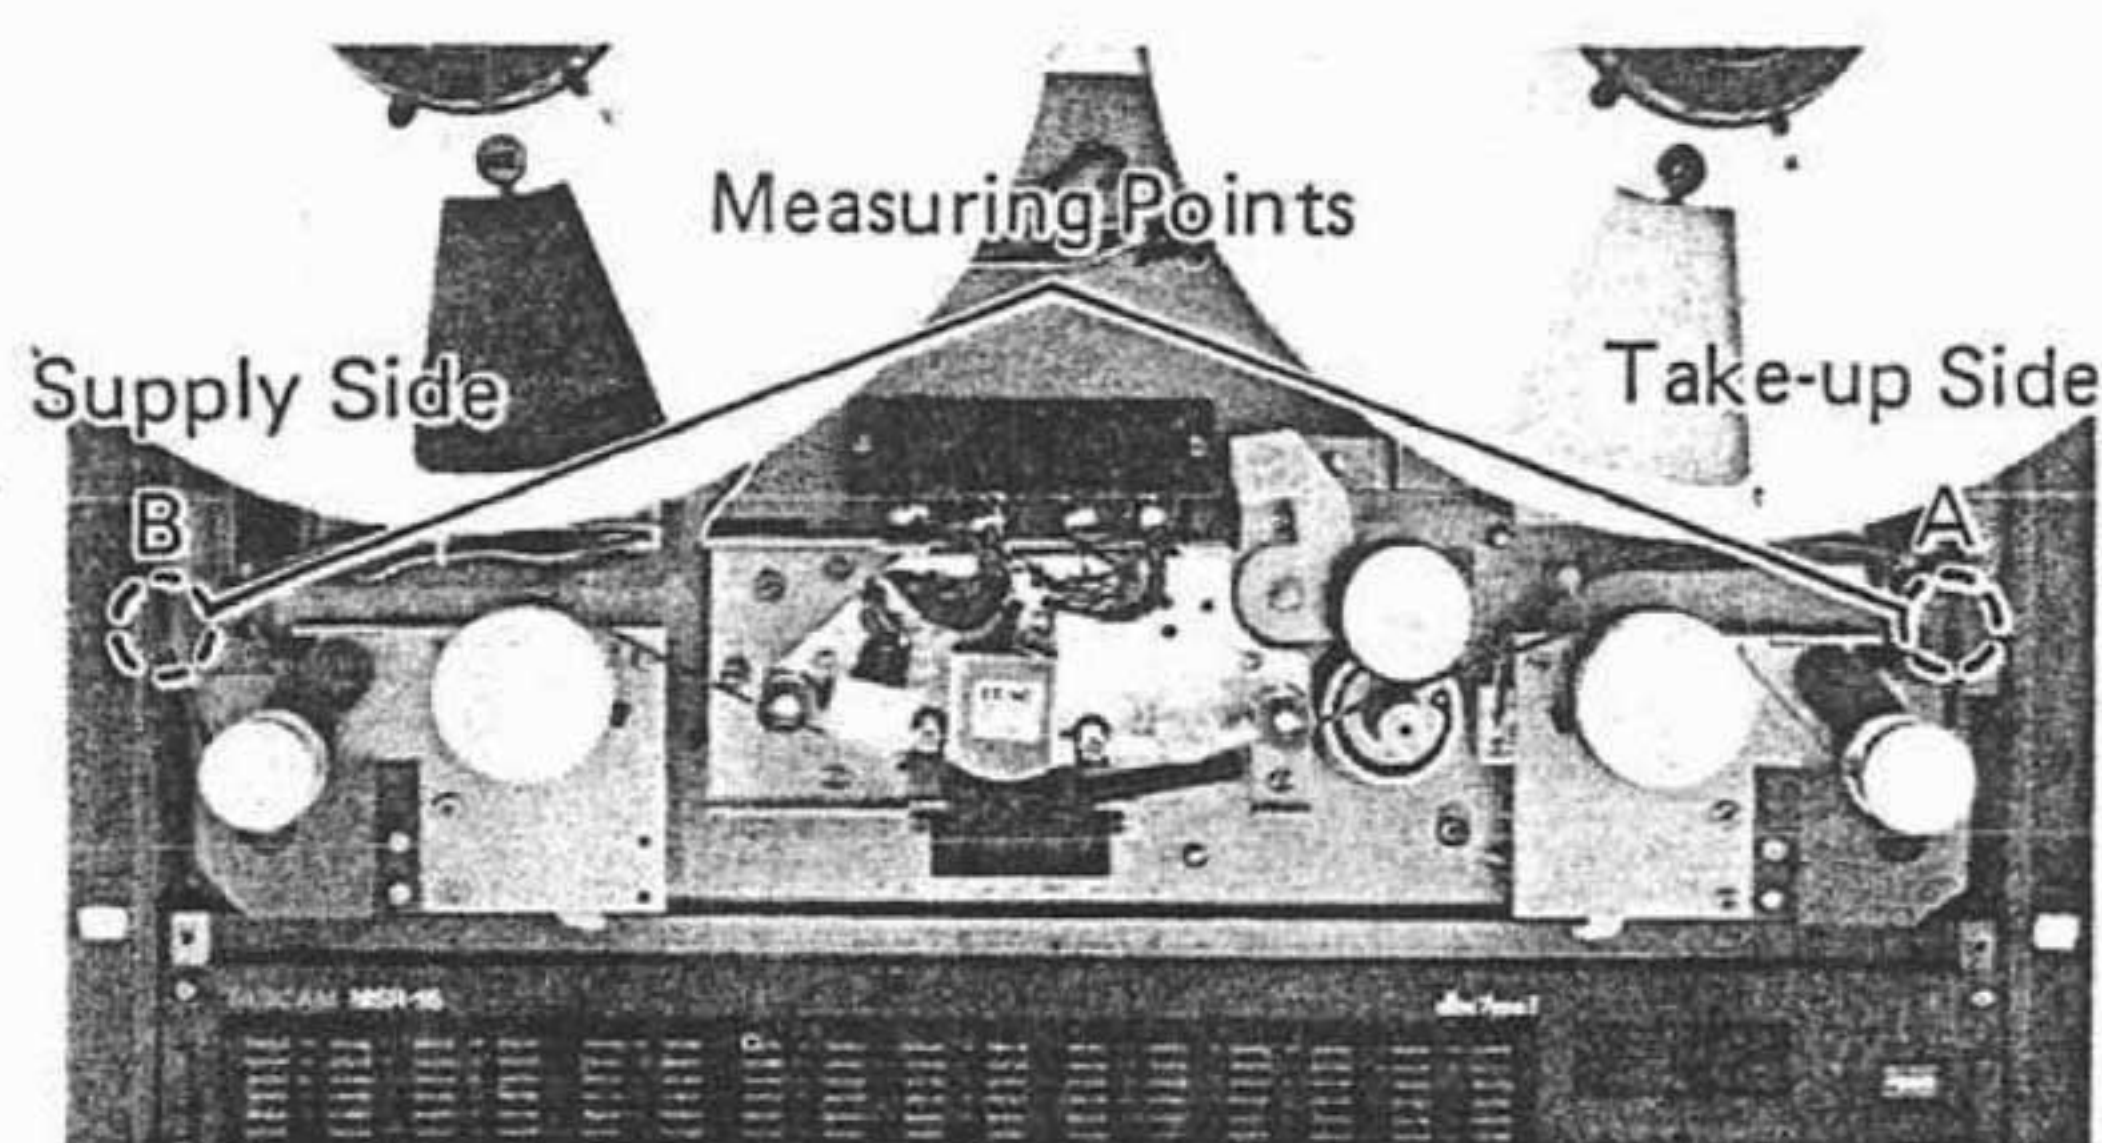

FIG. 18. TAPE TENSION MEASUREMENT POINTS
3. Using a tension analyzer or tentelometer, measure take-up tension at test point A and back tension at test point B (Fig. 18). Both readings should be  $70 \pm 5$  g. If not, adjust R2 (for take-up tension) and/or R1 (for back tension). Refer to Fig. 19 for locations of adjustment resistors.
2. Run the tape in F.FWD and read the tension analyzer or tentelometer at the B point shown in Fig. 18. Similarly, run the tape in REW and read the tension analyzer or tentelometer at the point A shown. Specifications (both in F.FWD and REW) are  $60 \pm 5$  g. If necessary, adjust the following resistor(s):